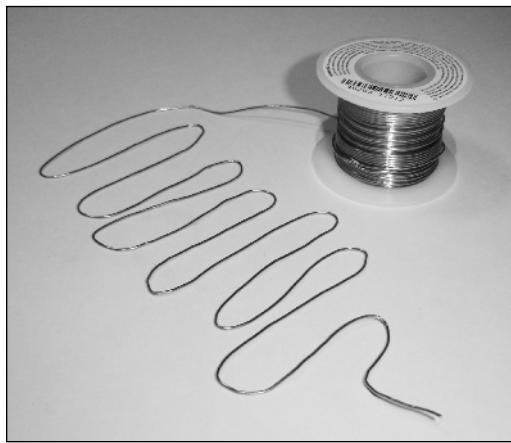

FIGURE 2-4: The solder snake.
2. Pull out a good length of solder from your roll and bend it into a wiggly shape, as shown in Figure 2-4. This increases the amount available to use before you have to pull more out again. Clever, eh?